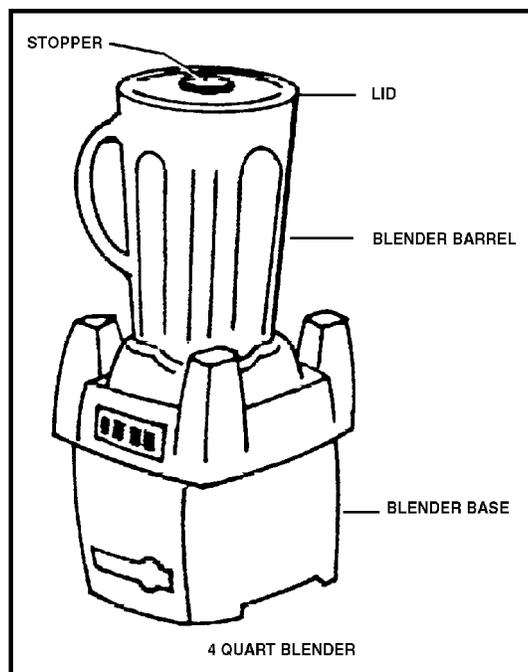

Figure 2-24.
- a. 4 quart blender parts. (See Figure 2-24.)